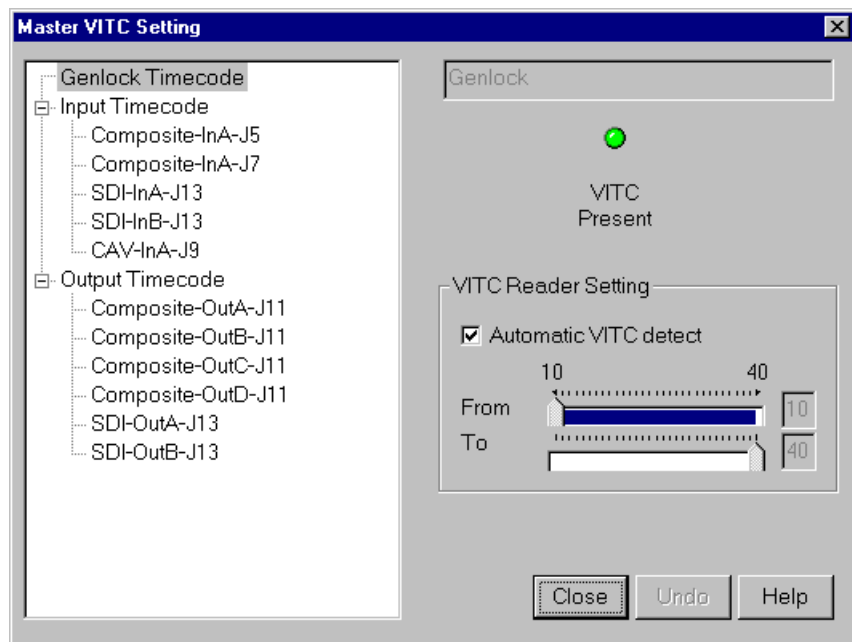

Figure 6. Master Timecode dialog box, genlock settings
1. Choose **Option | Master Timecode** or click the **Master Timecode** button on the toolbar. The Master VITC Setting dialog box appears (Figure 6).